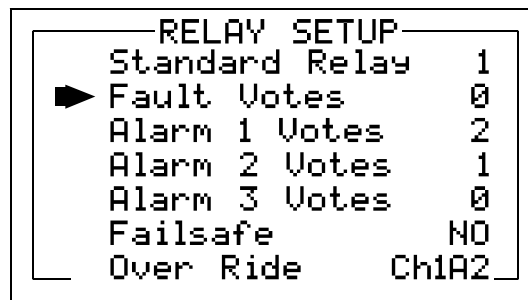

Figure 2.8
The menu shown in Figure 2.8 allows configuring of both the standard **Relay 1 & Relay 2** motherboard relays and the six optional relays on the 10-0222 discrete relay option PCB. Both standard and optional relays are programmed in this menu. Select the relay to be configured by pointing the arrow at the top menu item and pressing EDIT. The field will scroll through all eight possible relays (2 standard and 6 optional).
- Fault, Alarm 1, Alarm 2, Alarm 3** menus in Figure 2.8 offers additional “voting” flexibility by controlling the channel alarm combinations that will trip the selected relay. Each **Votes** entry requires this quantity of channels, for of each type alarm be active before this relay activates. As illustrated in Figure 2.8 above, Standard Relay 1 activates when any 2 channels have Alarm 1 conditions, PLUS, any one channel has an Alarm 2 condition. And since the **Over Ride** menu (see description below) contains the **Ch1A2** entry Standard Relay 1 also activates if alarm 2 on channel 1 trips. Fault Votes and Alarm 3 Votes values are 0 therefore Fault and Alarm 3 conditions will not affect this relay. Votes follow the logical “AND” function.